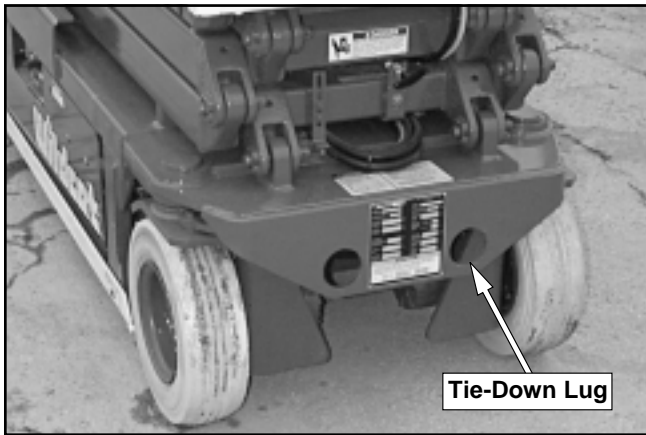

Figure 10.3—Tie-Down Lugs
7. Attach the winch to the tie-down lugs (refer to Figure 10.3) on the front of the chassis.